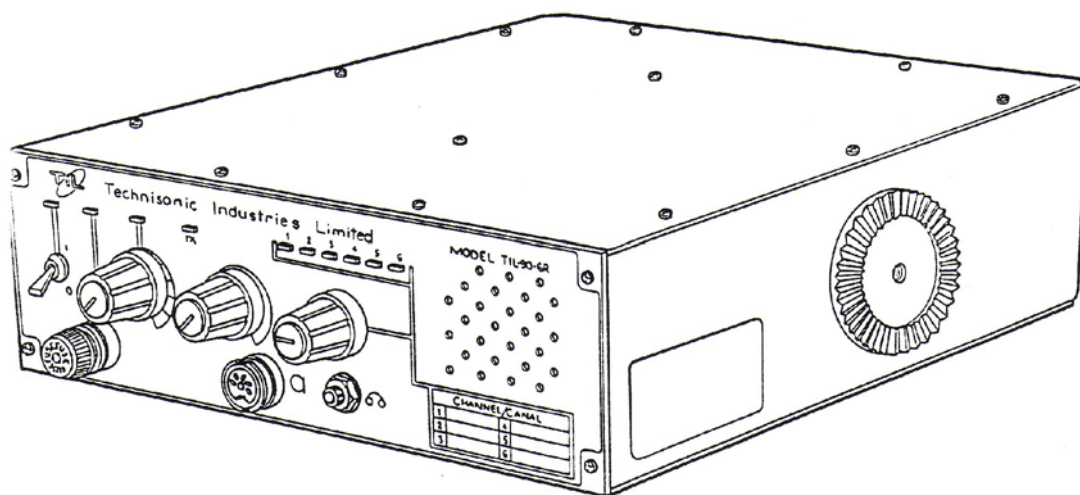

Figure 1-1 Transceiver - General View
- (1) Intended Purpose and Use - The system is intended for installation in airport service vehicles, such as cars, snowploughs, and grass cutters, to allow ground control over such vehicles while they are negotiating aircraft manoeuvring areas.
- (2) Brief Description of System Units - VHF/AM Mobile Transceiver System 860605, Opt.8.33 consists of the following items:
- (a) Transceiver Model 90-6R/8.33, Part Number 861605-2 with Opt. 8.33, is a low power VHF/AM transceiver which operates in simplex on six pre-programmable frequency synthesized channels, with 25kHz or 8.33kHz channel spacing in the frequency range 117.975MHz to 138.000MHz. The transceiver operates from a 12 volts dc nominal vehicle power supply (negative ground only). An optional internal dc to dc power convertor, P/N 863118-1 is available to allow operation from 10.8-30.0 Vdc. A general view of the transceiver is given in Figure 1-1. The transceiver is normally located under the dashboard of a vehicle using a mounting bracket and mounting hardware.